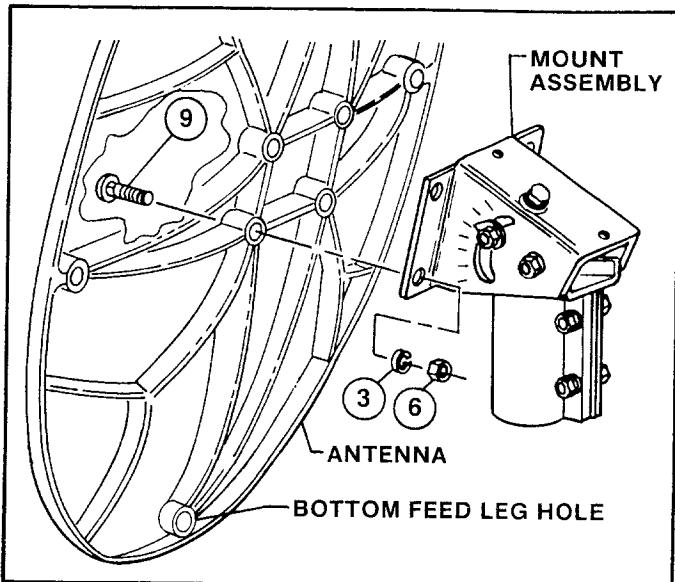

FIG. 1.4—ASSEMBLING ANTENNA TO AZ/EL CAP MOUNT
Install four M8 x 60 (2½ in.) round head, square neck bolts (9) into holes in center of antenna and cap mount flanges (Reference Fig. 1.4). Install four lock washers (3) and hex nuts (6) on bolts.
NOTE: Bottom feed leg hole to be located as shown in Figure 1.4.